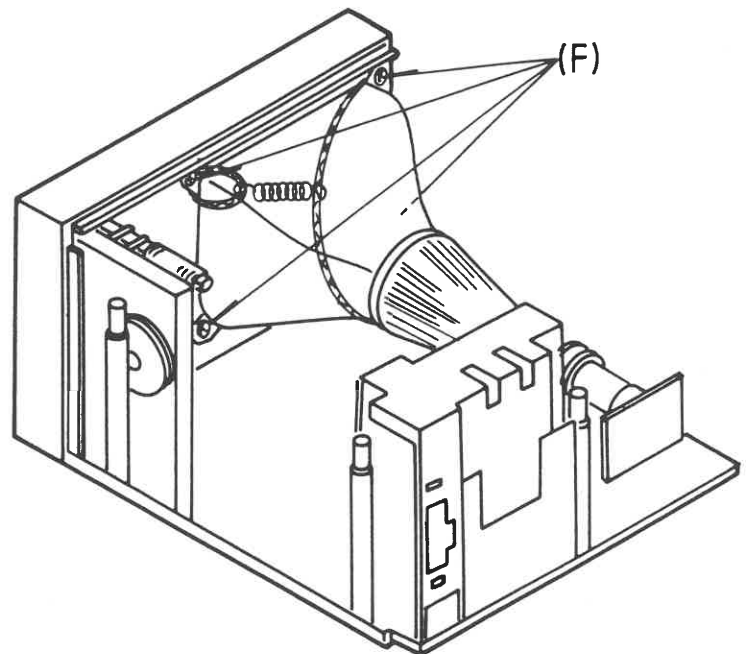

Figure 4
1. Remove 4 screws (F). (See figure 4)